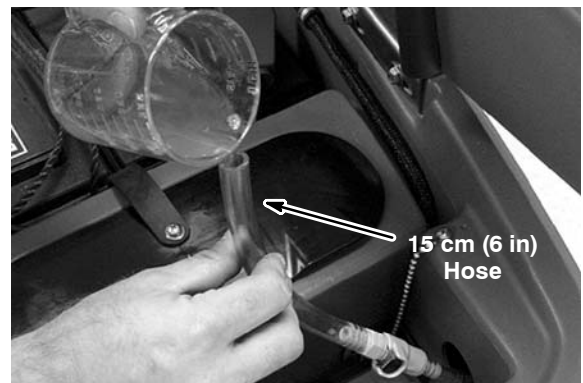

FIG. 59
6. Pour the recreational vehicle (RV) antifreeze into the supply hose until full (Figure 59).